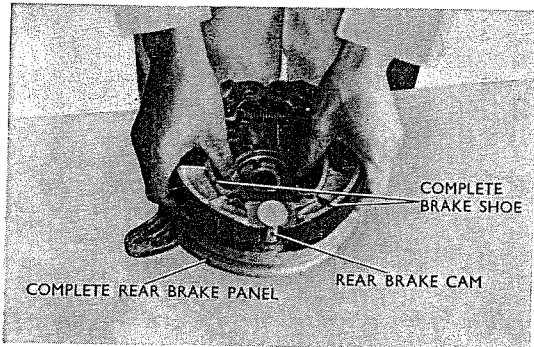

Fig. 4.85 Removing brake shoe
10. For disassembling the rear brake shoe, remove the brake arm complete from the panel, two 2.0 × 25 cotter pin, the anchor pin mounting washer, and the brake shoe complete. (Refer to Fig. 4.85)